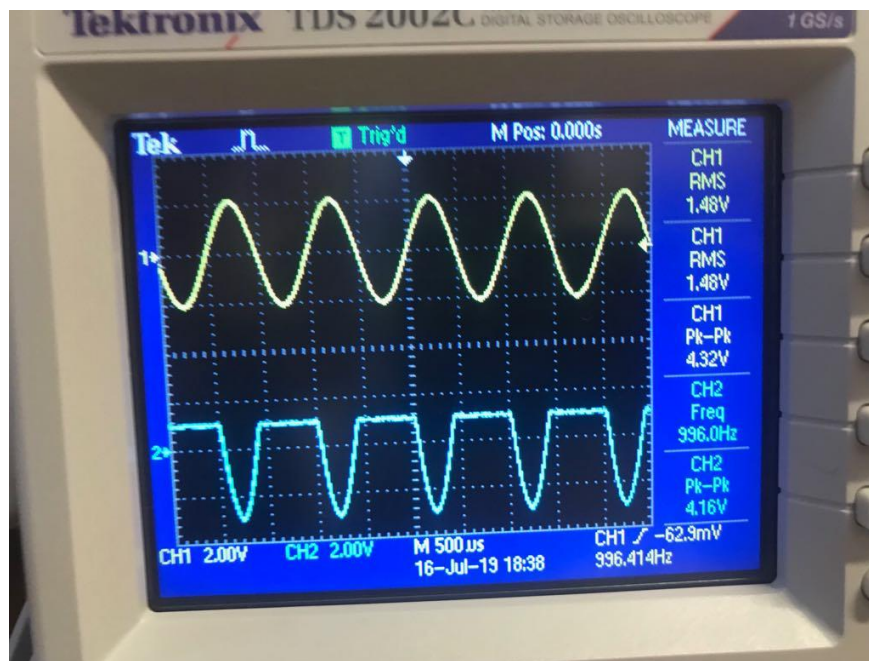
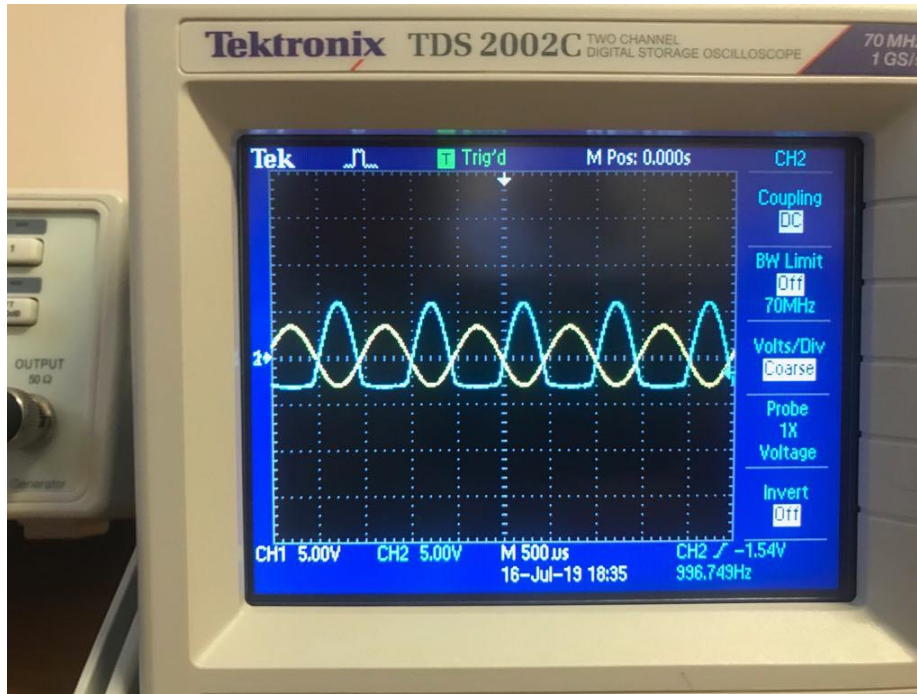

Figure 7
Figure 9
4. The bias potentiometer was turned up until the output looked like Figure 7.
6. Using the signals that was used in step 4 (as illustrated in Figure 7), the output of the function generator was increased till the output looked like Figure 9.
From Figure7, the amplifier is working in just half of the cycle ( $180^\circ$ ), and that means that the bias point is not chosen to meet maximum symmetrical swing. In other words, **the class of the amplifier is B.**
It could be seen from Figure 9 that the amplifier is working more than half of the cycle (greater than  $180^\circ$ ), and that looks like class B but with bias voltage, which means that **the class of the amplifier is AB.**